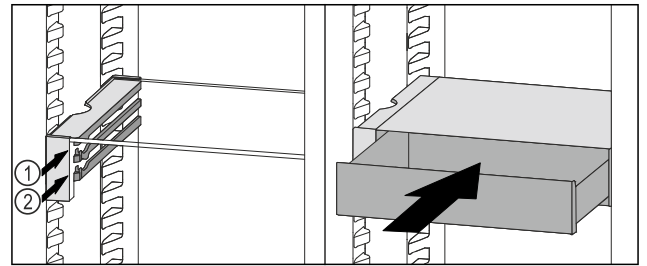

Fig. 171
- ▶ Place the VarioSafe drawer behind the stoppers on desired rib Fig. 171 (1) or Fig. 171 (2).